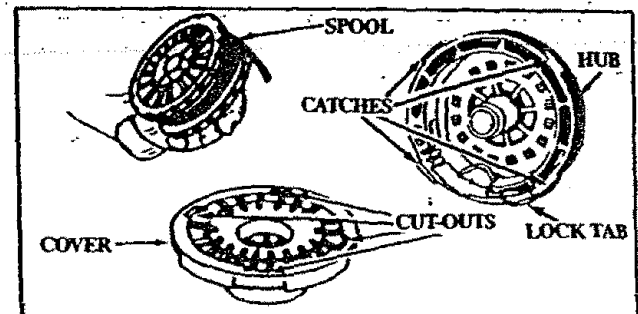

Figure 21
- Remove the Cover and Spool. Figure 21.
- 1.) Align the four catches on the Hub with the cut-outs in the Cover. Figure 21.